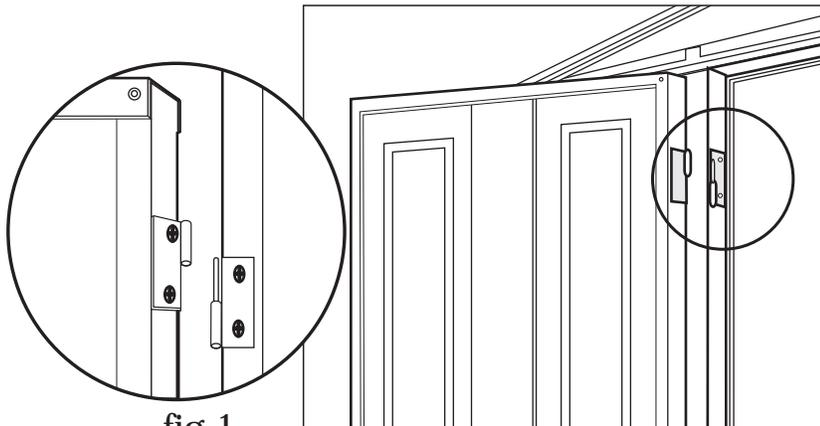

fig.1
1. Attach the doors left and right (see fig.1) with Loose pin hinges on front columns (FCLE) and (FCRE).